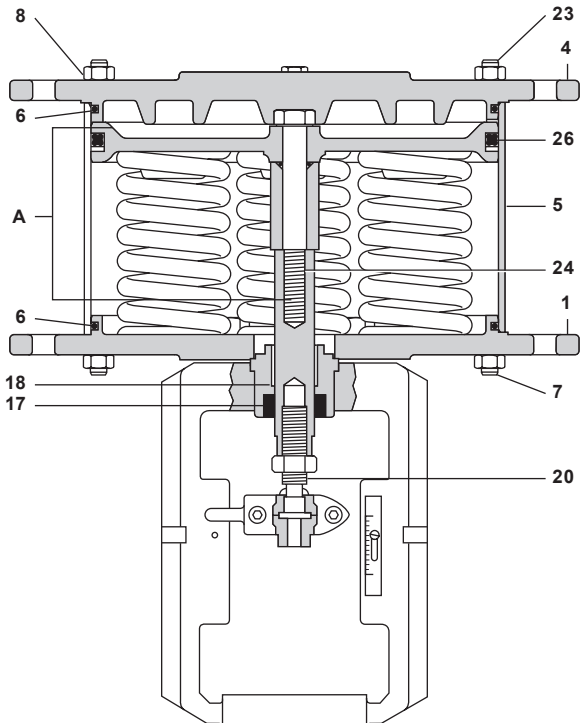

Fig. 9 TN2000R
- Loosen and remove the connector (20), see Figure 9.
- Depending on the actuator size loosen and remove the 3 or 4 short threaded bars (7).
- Evenly loosen and remove the remaining long securing nuts (23), see note above.
- Remove the upper cylinder cap (4).
- Remove the cylinder (5).